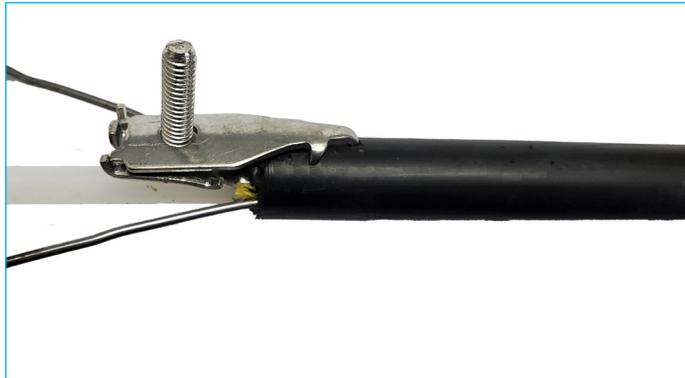

Figure 6
8.4 If using shield bond connector, push the lower plate of the bond clamp under the inner shield so that the stud bolt is positioned between strength members. Place the upper plate of the B-Bond clamp over cable jacket. See Figure 6.